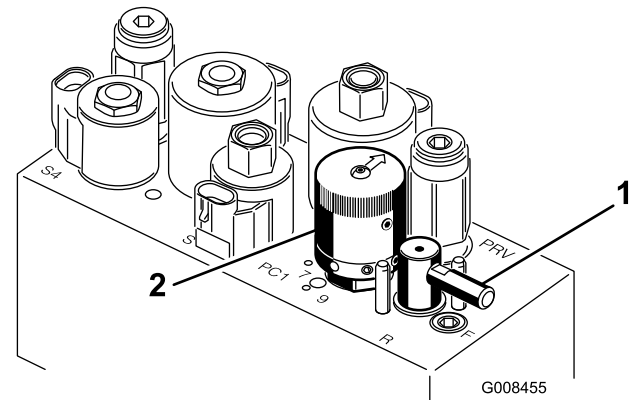

Figure 56
5. Rotate the Backlap Lever to the "R" position (Figure 56).
6. Rotate the Reel Speed Control to setting 1 (Figure 56).